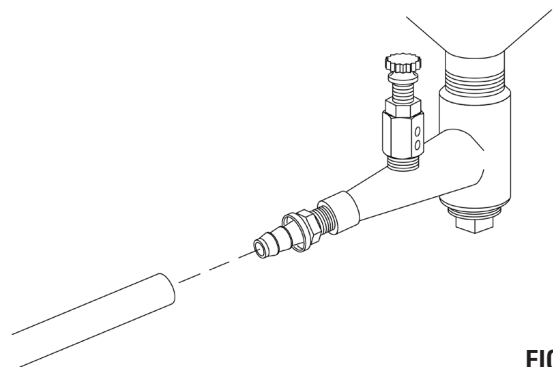

**FIGURE 5**
**2.6.1.2** | Wire the dust collector motor per **Figure 5** and motor nameplate. The motor operates with the cabinet light switch.
**2.7.1** | Refer to **Figure 5** and attach the clear media hose from under the cabinet hopper to the metering valve at the bottom of the reclaimer hopper by pushing the hose onto the barded fitting.